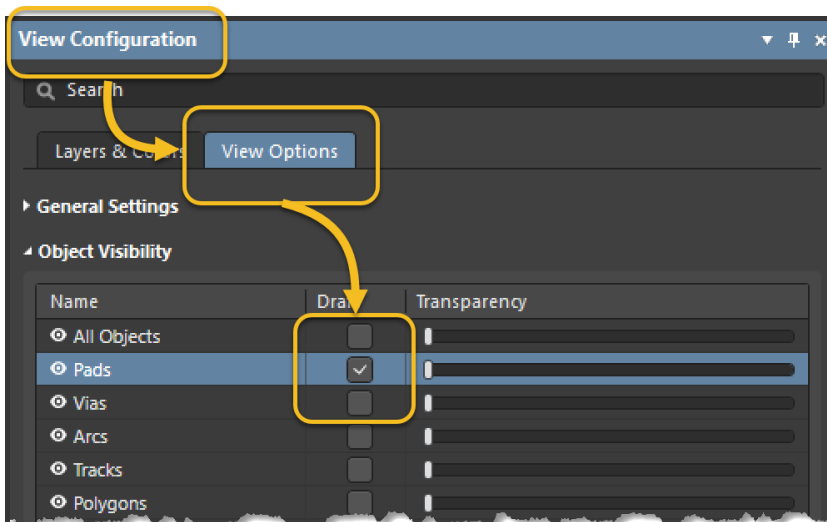

Figure 4. View Configuration Dialog
- Click on the *View Options* tab in the *View Configuration* panel and then Click on the **Pads Draft** check box. See Figure 4 below.